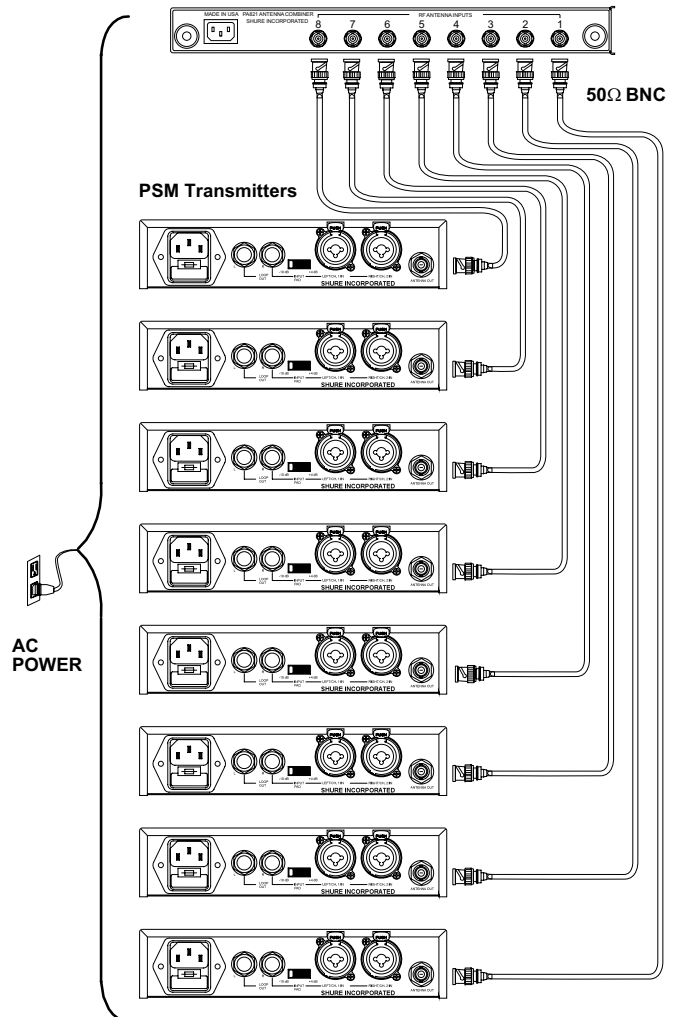

FIGURE 2
1. Using the supplied BNC-BNC cables, connect the **ANTENNA OUTPUT** of each transmitter to the **ANTENNA INPUTS** of the PA821 (Figure 2).